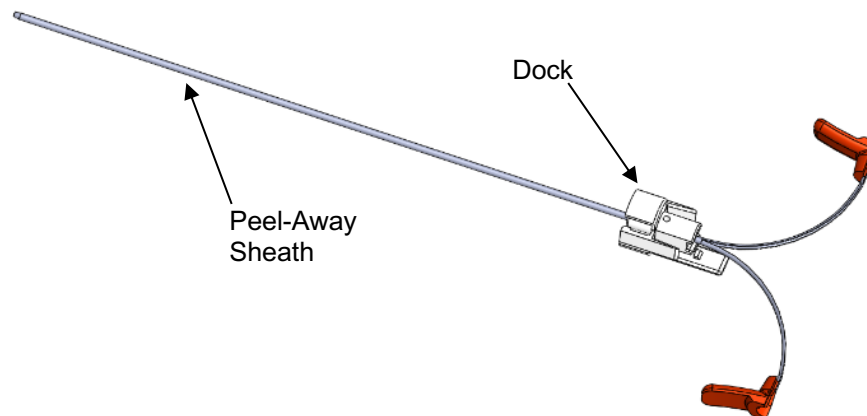

Figure 35: Peel-Away Sheath Inserted into Dock
11. Insert the Lancet into the Peel-Away Sheath until the pointed end protrudes approximately one (1) to eight (8) millimeters. A slight resistance should be felt. If the Depth Stop interferes with the Sheath before the Lancet can be fully inserted, peel the sheath away further until the Lancet can be fully inserted.
14. Remove a new Peel-Away Sheath from the Accessory Kit and separate the hub and peel away approximately one (1) inch of the Sheath. Place the Peel-Away Sheath through the Dock.
15. Insert the peeled Sheath sides into the grooves of the Dock. **See Figure 35.**